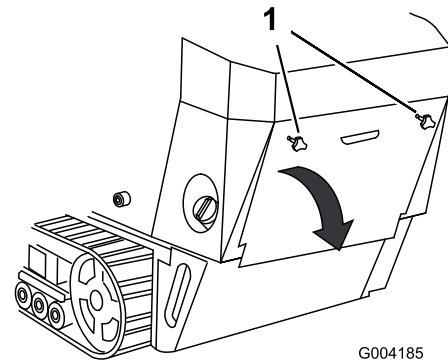

Figure 27
1. Unscrew the 2 hand knobs securing the rear-access cover to the machine (Figure 27).
2. Tilt the rear-access cover down and remove it to access the internal components (Figure 27).